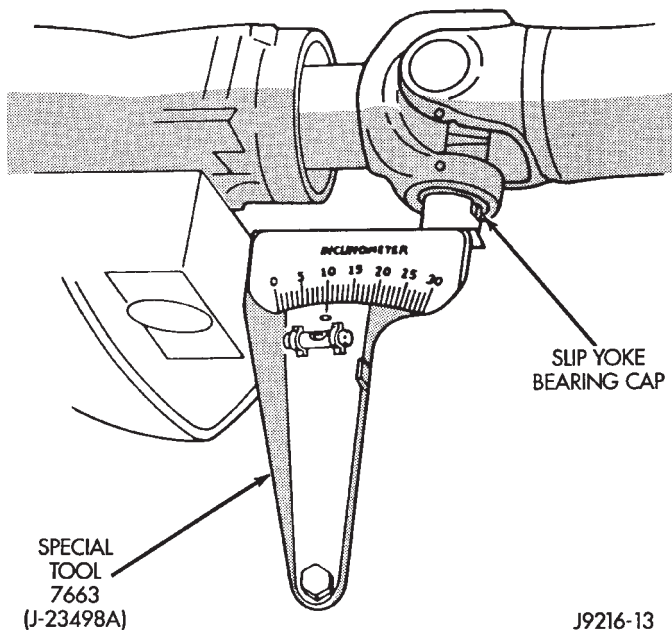

Fig. 9 Front (Output) Angle Measurement (A)
(3) Place Inclinator on yoke bearing (A) parallel to the shaft (Fig. 9). Center bubble in sight glass and record measurement.